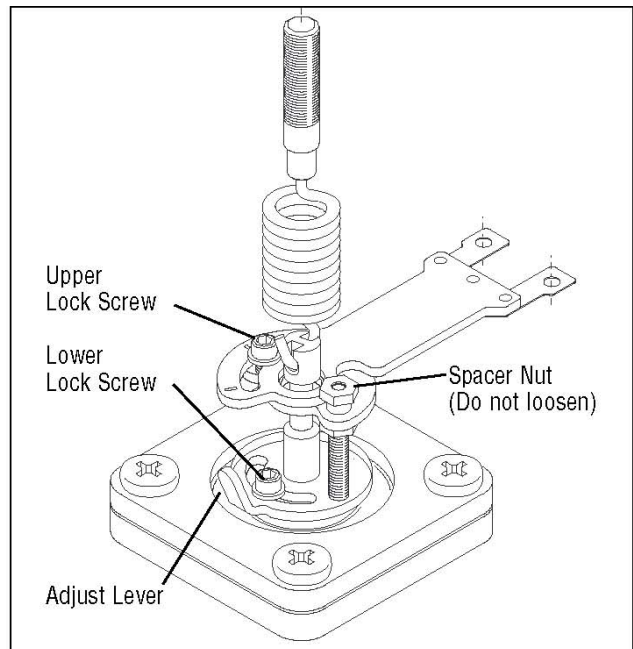

Figure 6: Gain Adjustment
3. Using a 5/64-inch allen wrench, *loosen both upper and lower lock screws* about one half turn. Do not loosen the spacer nut. (See Figure 6.)